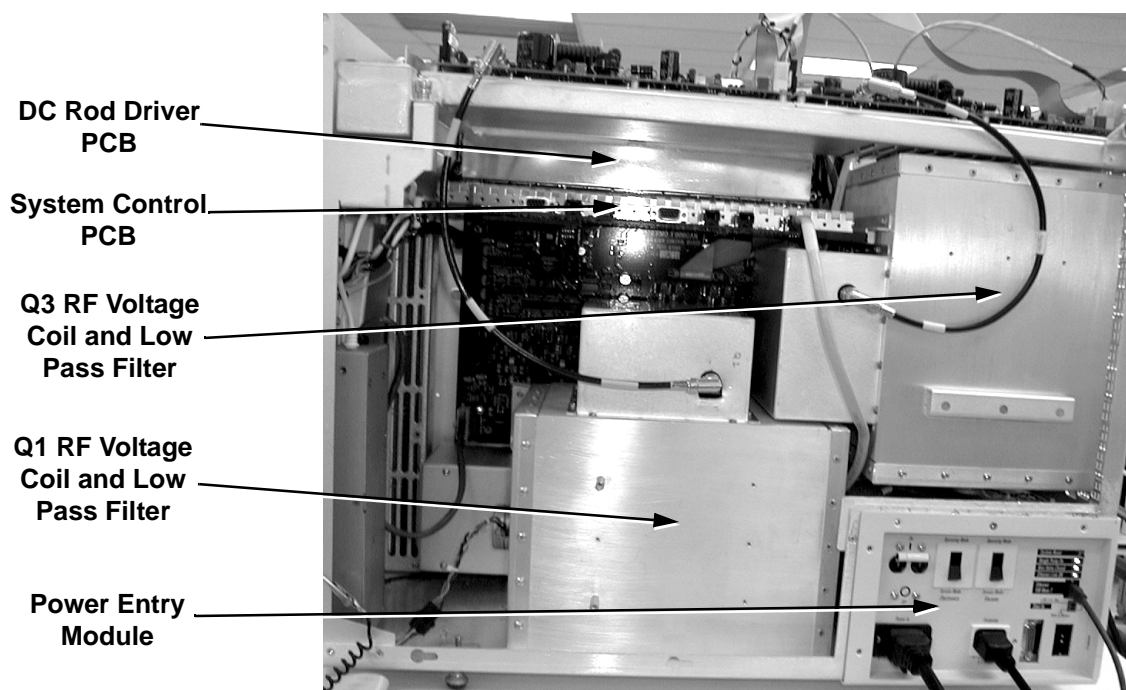
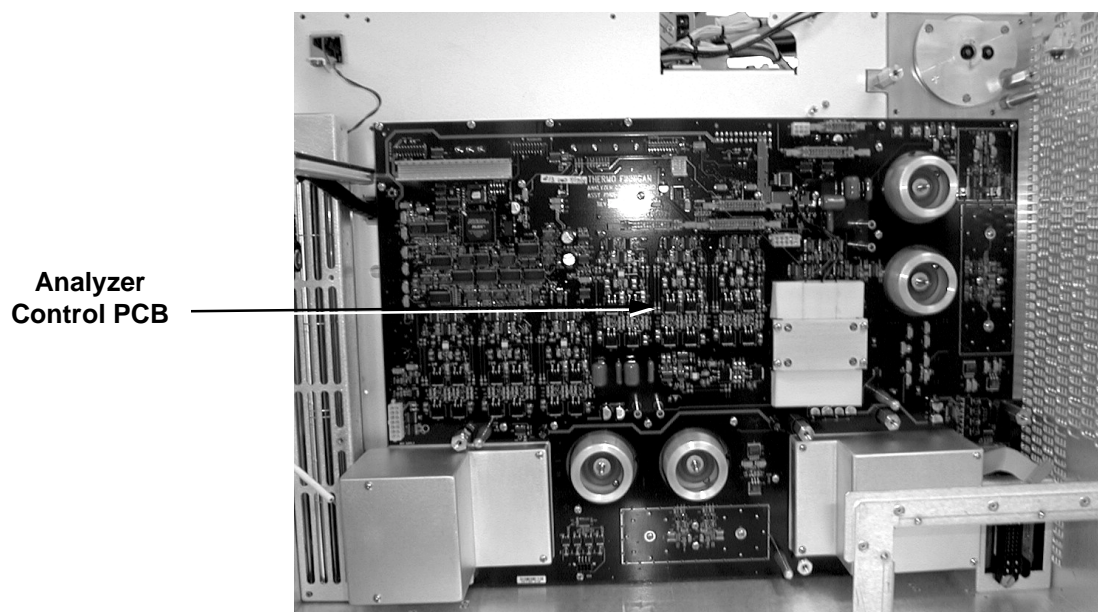

Figure 7-4. PCBs and assemblies accessible from the right side
Figure 7-5. Analyzer Control PCB (viewed from right side)
- PCBs and assemblies that are accessible from the right side of the mass spectrometer (See Figure 7-4 and Figure 7-5.)